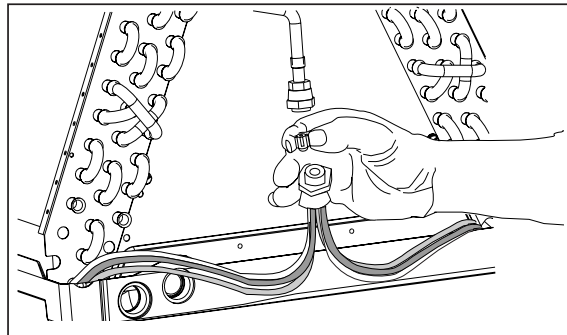

Figure 4. Removal of Orifice
4. Insert a light-gauge wire hook between the distributor body and the restrictor orifice to lift the orifice out of the body. **(See Figure 4)** Carefully remove the restrictor orifice being careful not to scratch either part.